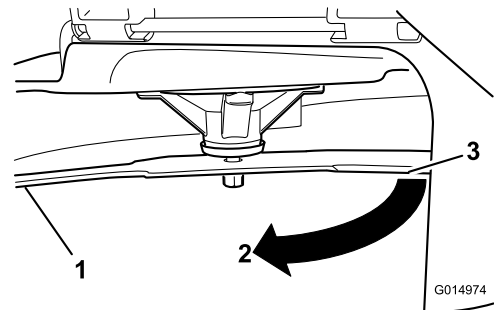

Figure 46
4. Rotate the same blade 180 degrees so that the opposing cutting edge is now in the same position (Figure 46).